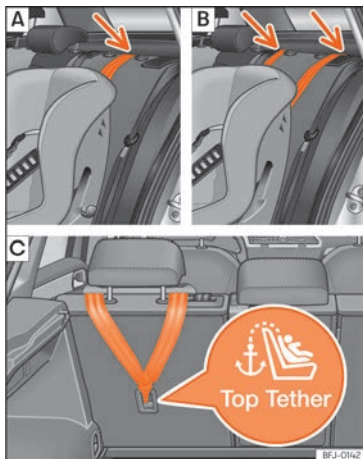
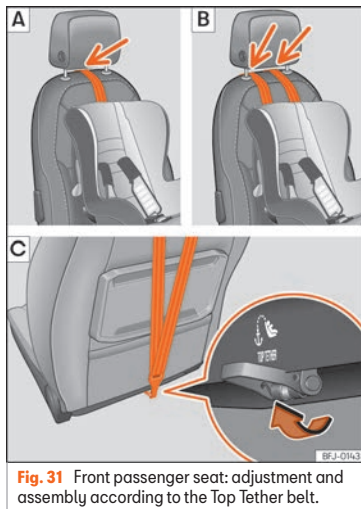

Fig. 30 Side seats of the second row: adjustment and assembly according to the Top Tether belt.
Fig. 31 Front passenger seat: adjustment and assembly according to the Top Tether belt.
hind the seat backrest or in the boot) »» Fig. 30. For the front passenger seat, the ring is below the backrest »» Fig. 31.
- Position the belt under the headrest >>> **Fig. 30 [A]** or **[B]**, >>> **Fig. 31 [A]** or (depending on the instructions of the seat itself, lift or remove the headrest if necessary).
- Slide the strap and secure it properly with the anchorage of the backrest >>> **Fig. 30 [C]**, >>> **Fig. 31 [C]**.